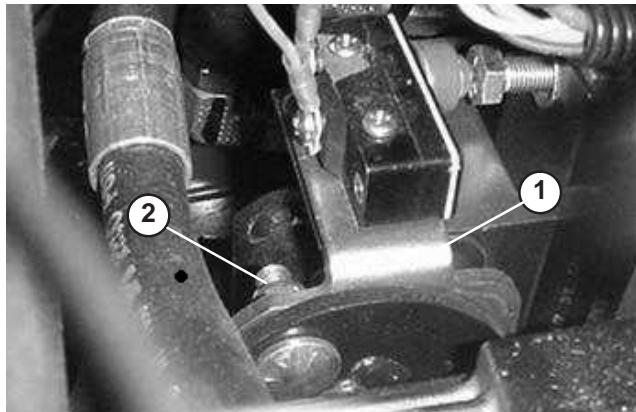

Figure 47
4. Loosen two locknut securing pump plate so plate is free to move (Fig. 47).
5. Start engine and rotate pump plate (Fig. 47) in either direction until wheel ceases rotation.
6. Stop engine and tighten locknuts to secure pump plate (Fig. 47).